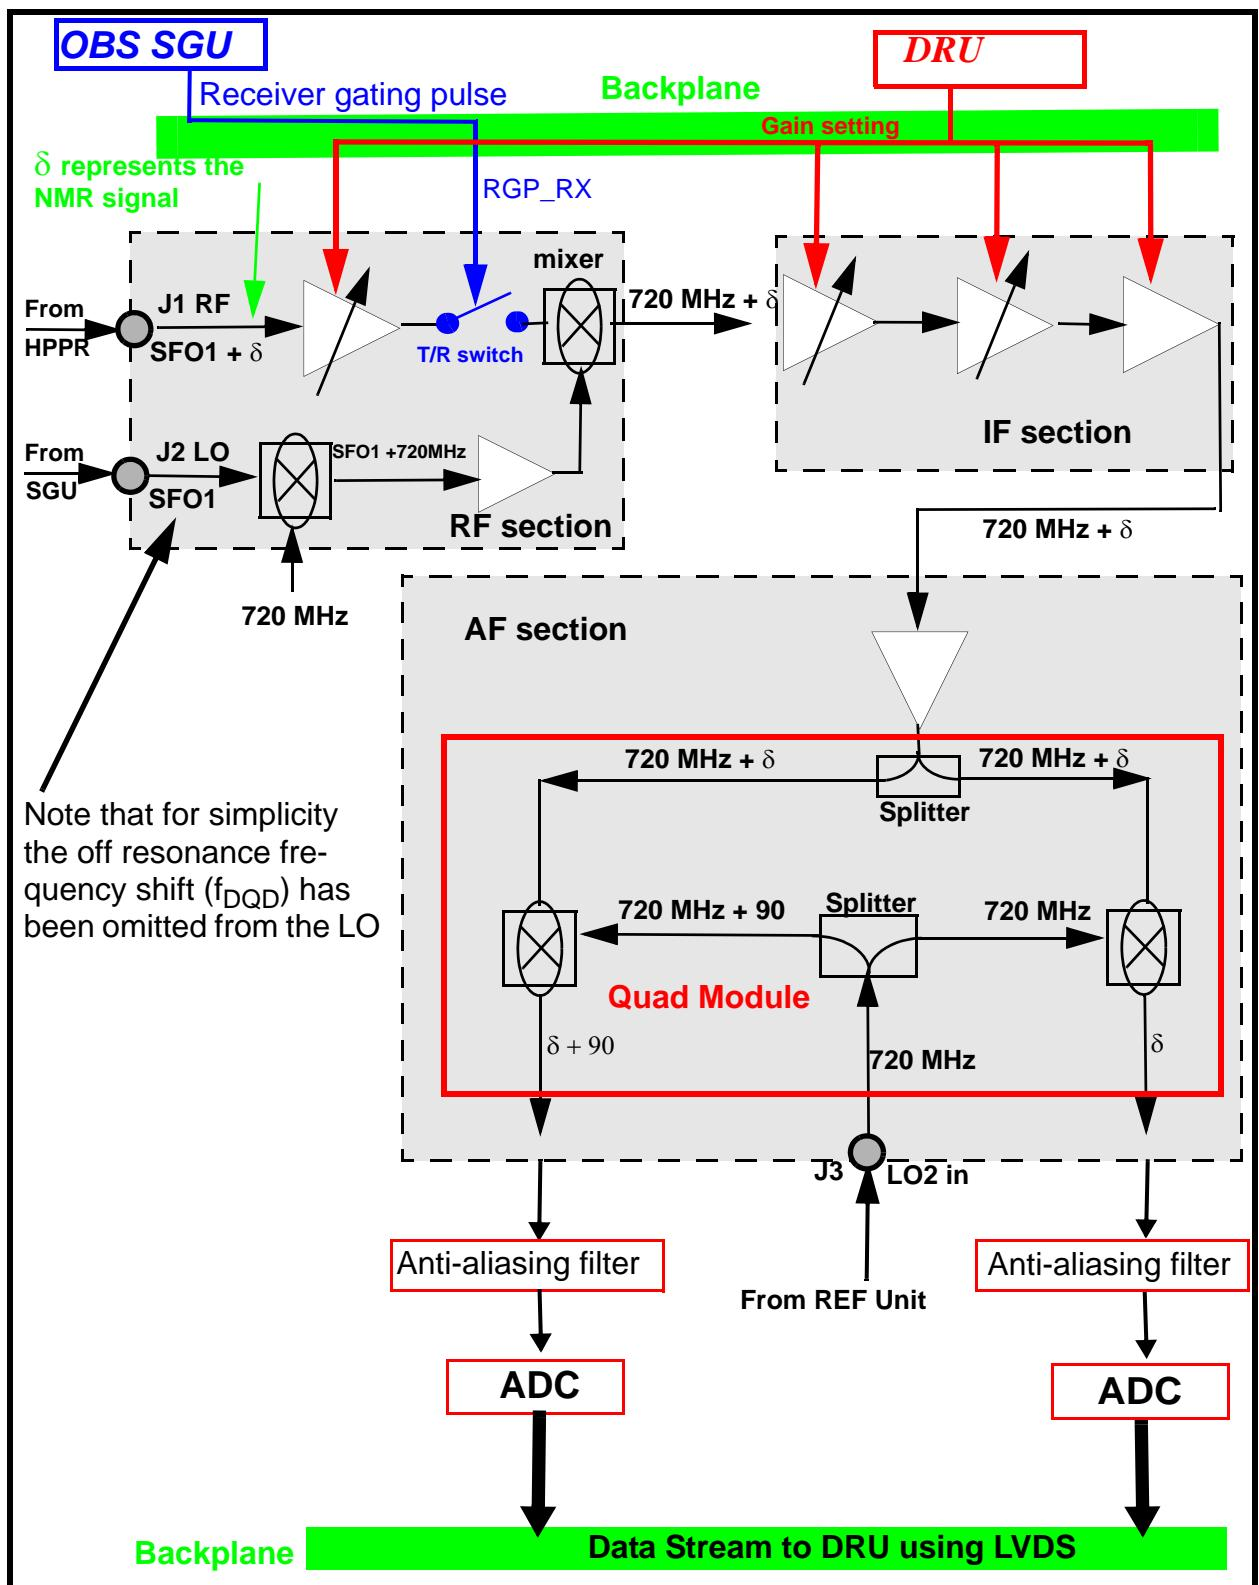

Figure 14.2. Simplified Schematic of the RXAD and RXAD-BB Receiver
At the final stage of the receiver the RF signal is split into two channels with a phase difference of 90 degrees, a standard method known as quadrature detection which is used to suppress mirrored signals. In order to ensure that the two channels provide identical amplification slight adjustment to the phase and gain of these channels may be necessary. This can be done via Unitool. The final outputs (channel A and channel B) are connected directly to the ADC. The two signals should be in the range of $\pm 5V$ and the amplitude should change with the value of RG. The only distinction between the two signals is a 90 degree phase shift and the subsequent spectra resulting from Fourier Transformation are often referred to as the 'real' and 'imaginary' spectra. Once digitized the two data streams are delivered onto the backplane where they are transmitted over a LVDS type link along the backplane to the DRU (see Figure 14.2).
This signal has a frequency of $SFO1 + f_{dqd}$ and is only present when the receiver is open. The signal which is generated by the Observe SGU is used to demodulate the NMR signal from the carrier frequency to yield a signal of 720 MHz plus δ where δ is the NMR signal (see Figure 14.2).
2. adjust the gain, phase and baseline for the quad module (the quad module is a final critical element of the receiver which implements quadrature detection.(see Figure 14.2.)